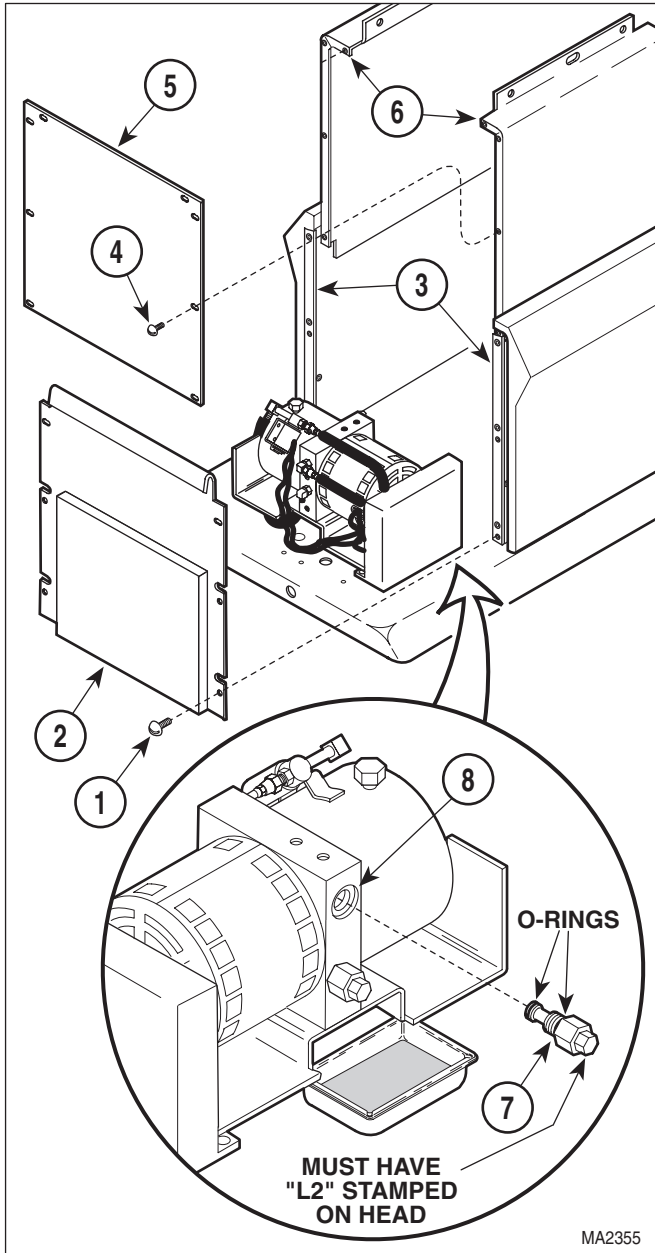

Figure 4-7. Down Functions Relief Valve Removal / Installation
- (1) Unplug table power cord from outlet.
- (2) Remove motor cover assembly (Refer to para 4.2).
- (3) Remove four screws (1, Figure 4-7) and back outer shroud (2) from left and right hand outer shrouds (3).